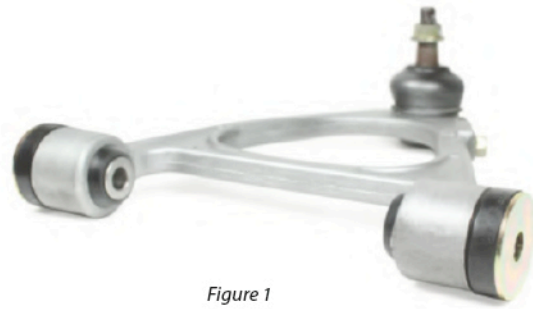

Figure 1
3. Push the polyurethane bush into the bore towards the middle of the arm, so that the top hat section sits on the outer edge of the wishbone as shown in figure 1. The two bushes should face each other in the arm.